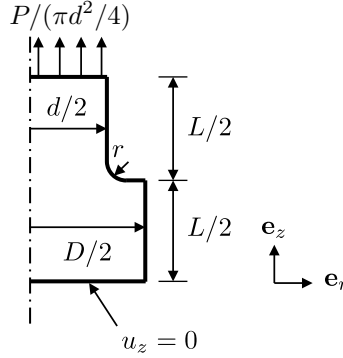

Figure 2: Schematic of a stepped shaft under tension.
Since the geometry and loads are symmetric about the center axis of the shaft, this configuration is an example of an axisymmetric problem, opening the door for two-dimensional modeling. We use the axisymmetric representation of the problem shown in Fig. 2 as the basis of our finite-element model.
- Sketch the part as pictured in Fig. 2 and click Done. (Use the Create Fillet tool when sketching the part.)